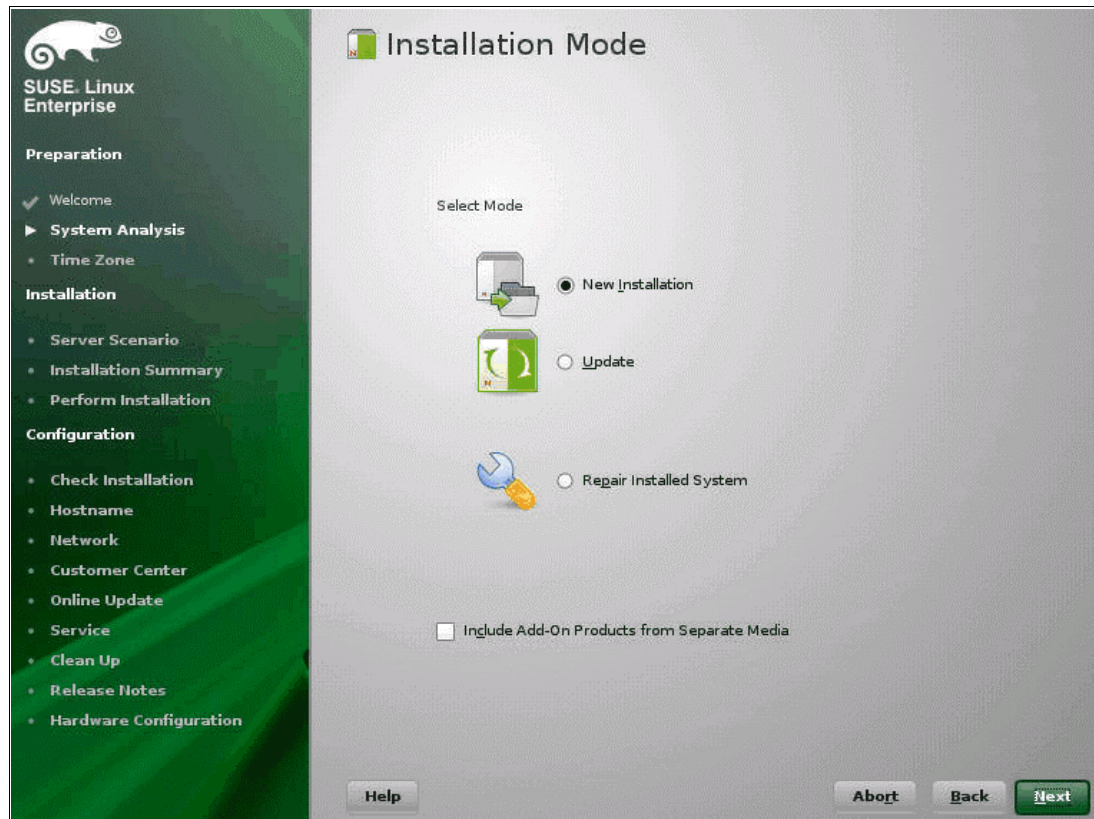

Figure 5-98 Installation Mode
5. Select **New Installation** as the installation mode, as shown in Figure 5-98.